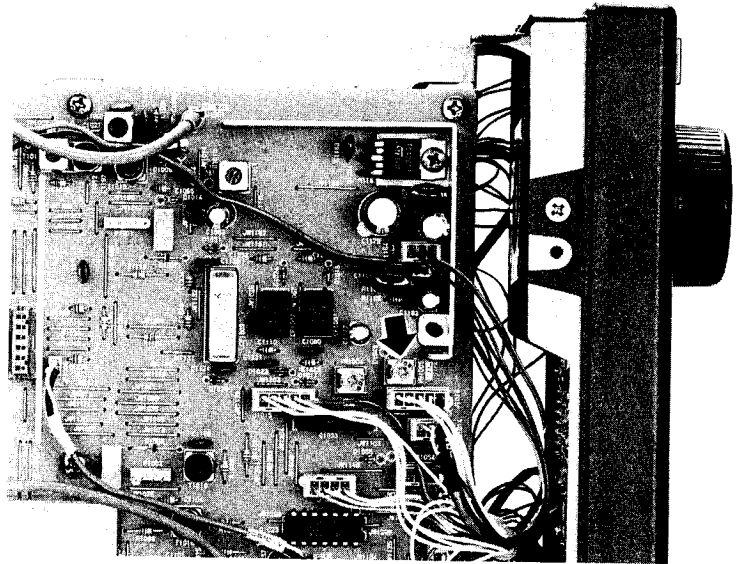

Fig. 2 Top View
- The key beep volume can be adjusted by potentiometer **VR1005**, located at the bottom edge of the circuit board (see Fig. 2)
- Referring to Figure 2, determine the location of **P1001** & **P1002** and the nylon mounting stand-offs.
Note the location of the standard crystal oscillator (Figure 2), it can be found approximately three centimeters above and to the left of the mounting screw in the center of the board.